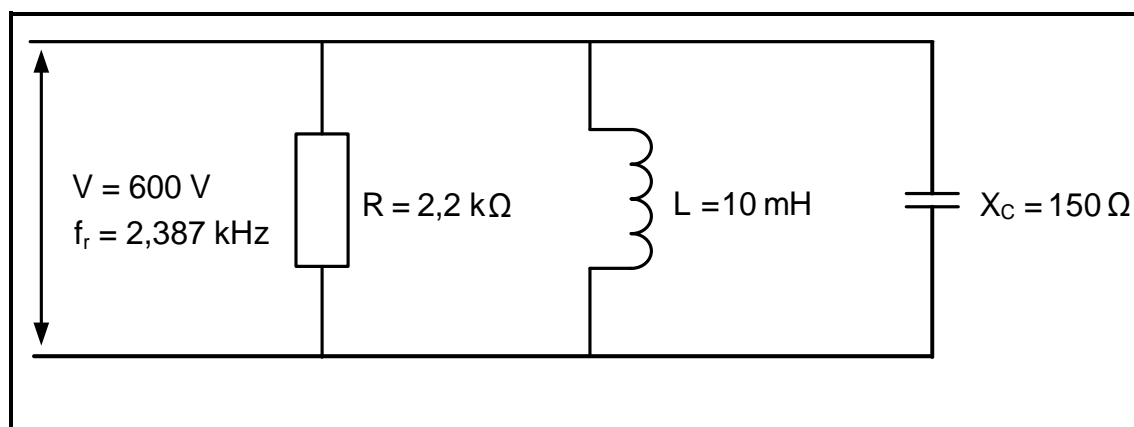

FIGURE 3.4: RESONANT RLC CIRCUIT
3.4 Refer to FIGURE 3.4 below and answer the questions that follow.